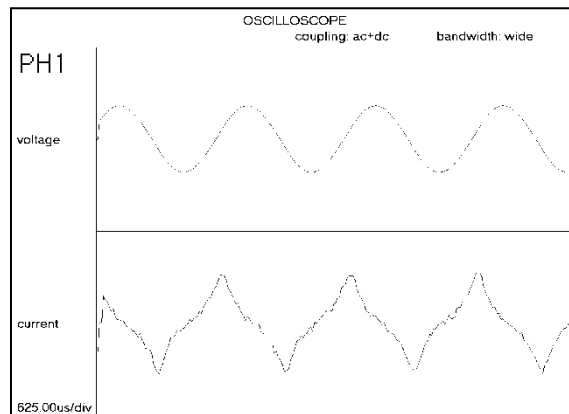
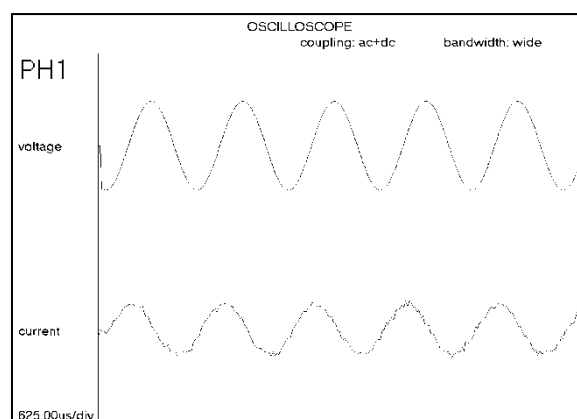

Fig 1 (Distorted current waveform)
Fig 2 (Correct current waveform)
*Note: The amplifier contains an output rms current protection circuit, and when driving some capacitive loads this circuit may be activated. Due to capacitor construction, at high current the amount of energy transfer distorts the current waveform resulting in excessive peak current (Fig 1 below), whilst the rms value remains within specification. To ensure correct functionality and prevent false triggering of the protection circuit, ideally, the current waveform should be a sinewave as pictured in (Fig.2 below).*